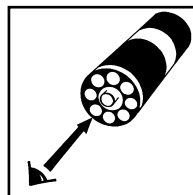

Figure 4
6. Obtain a test result by placing the ampoule, flat end first, into the comparator. Hold the comparator up toward a source of light and view from the bottom. Rotate the comparator until the best color match is found (fig. 4).